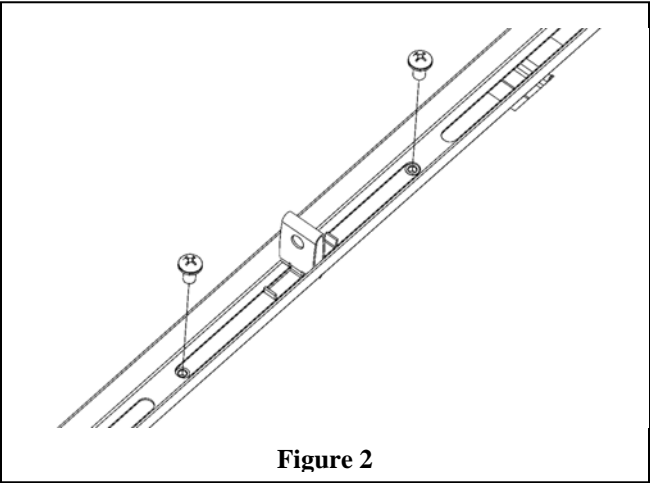

Figure 2
Step 2 – Attach the T-bar mount with (2) #10-32 screws (Figure 2).